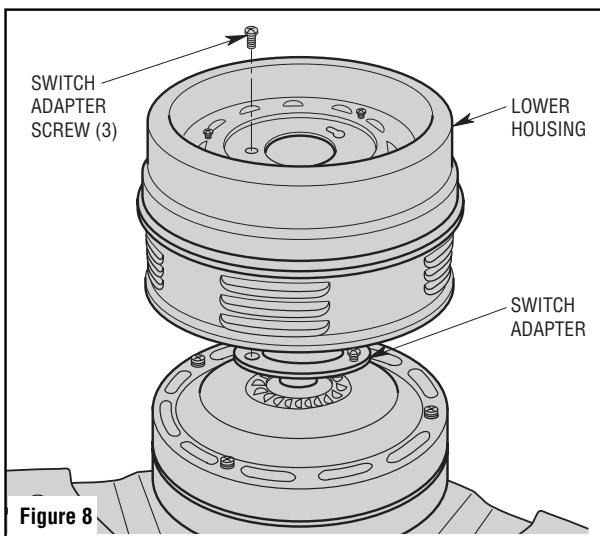

Figure 8
16. Remove one of the screws from the switch adapter. Retain for future installation. Loosen the two remaining screws in the switch adapter for installation of the lower housing (Figure 8).
17. Place the lower housing onto the switch adapter. Rotate the lower housing clockwise on the switch adapter to engage the keyholes onto the loosened screws. Retighten the two screws and reinstall the screw previously removed. Tighten all three screws securely (Figure 8).